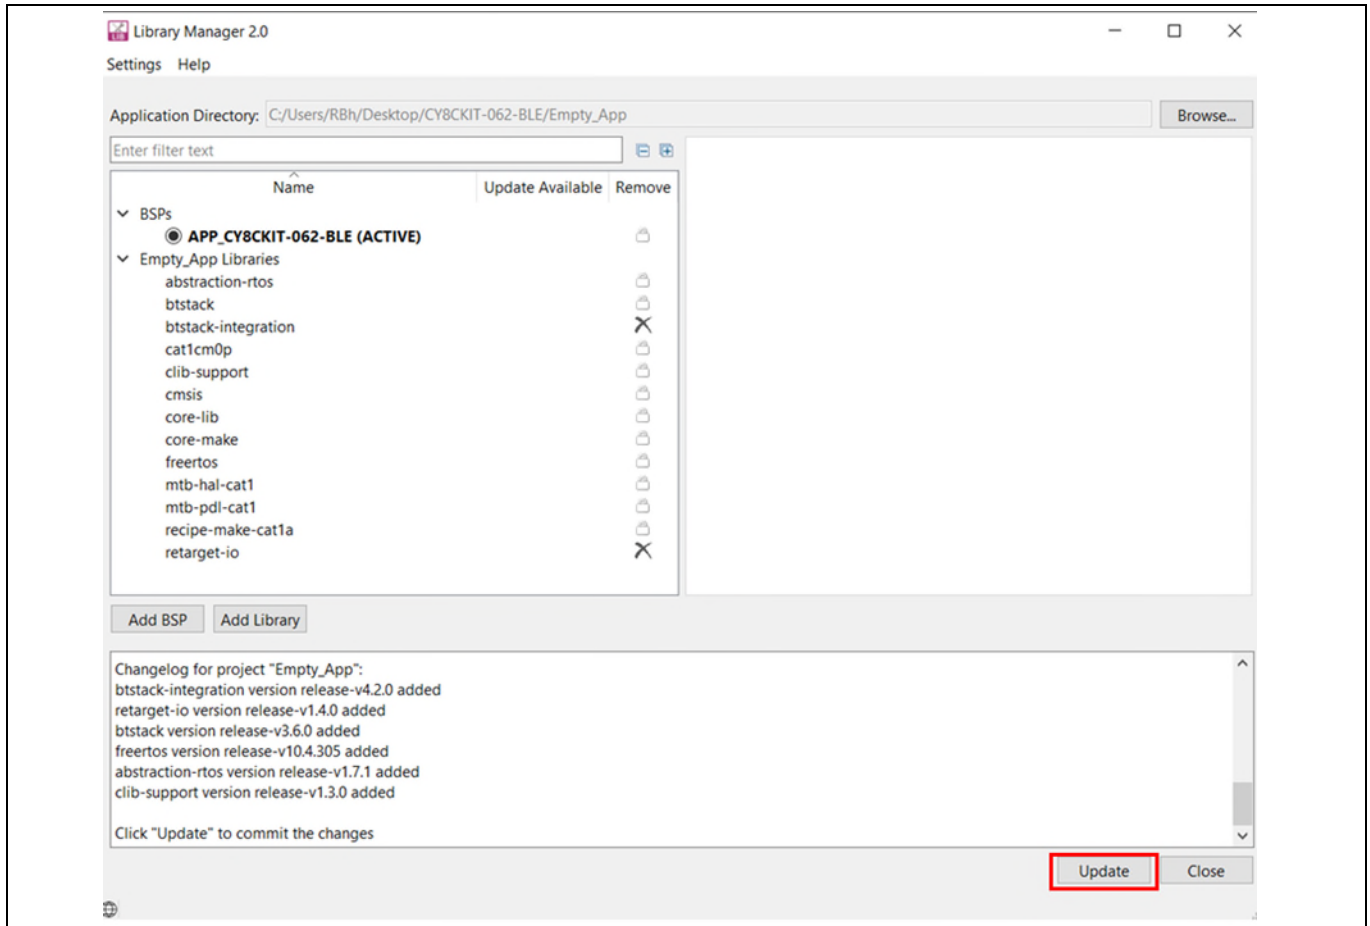

Figure 17 Libraries for Bluetooth® LE Find Me code example
- You have selected all the required libraries. To add them to the project, click on **OK** and then **Update**. Figure 17 shows all the libraries selected and their dependency libraries. The files necessary to use the `retarget-io` middleware are added in the `mtb_shared > retarget_io` folder, and the `.mtb` file is added to the `deps` folder. Similarly, you can find other libraries under the respective folder in the `mtb_shared` folder.